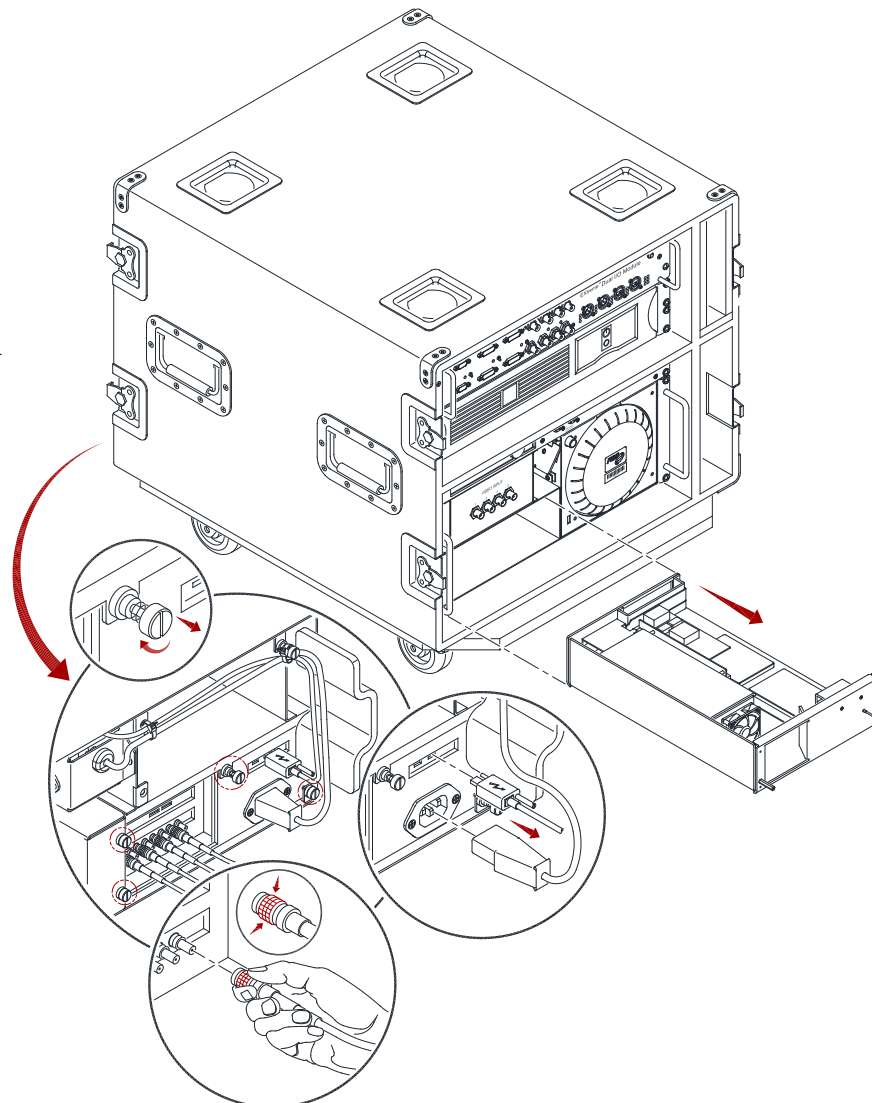

Figure B-3: Replacing PCIe Card Cage
- Step 4. Carefully slide the card cage out of the case, checking for cables or connectors that may become caught. (Figure B-3).
If it is necessary to replace any of the PCIe cards in the card cage, follow the refer back to “Figure B-3: Replacing PCIe Card Cage” on page 38 for information on removing the card cage for access to the cards. Then refer to Technical Bulletin MBX-024 for further instruction for the removal of the individual PCIe cards.